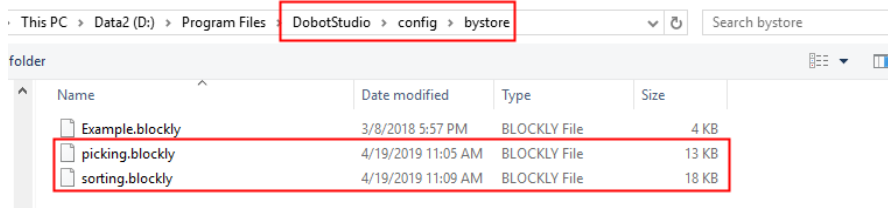

Figure 3.3 Save demos
**Step 1.** Put the two demos for picking and sorting into the path *Installation path/DobotStudio/config/bystore* or other folders. As shown in Figure 3.3.